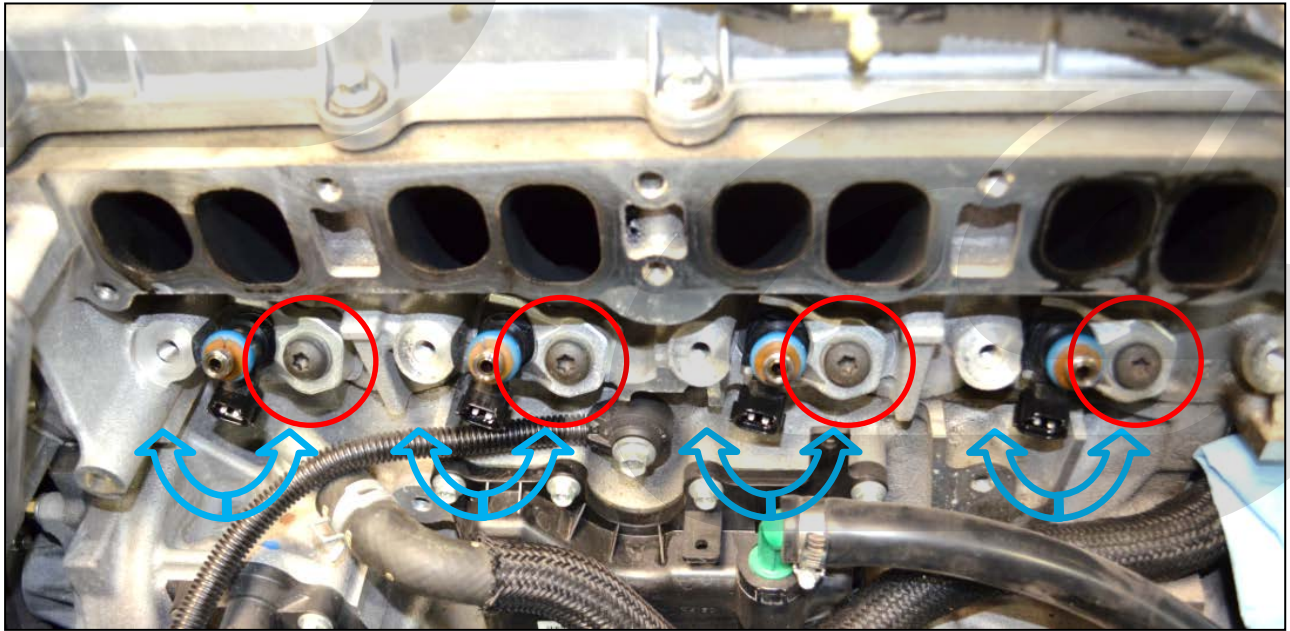

Figure 7a
- b) Remove the fuel injector clamps. Use a T-40 torx socket and wrench with a 4" extension. Red circles in Figure 7a.
- c) Remove the fuel injectors. Rotate the injectors back and forth while pulling them out of the cylinder head. Rotation direction shown with blue arrows in Figure 7a.